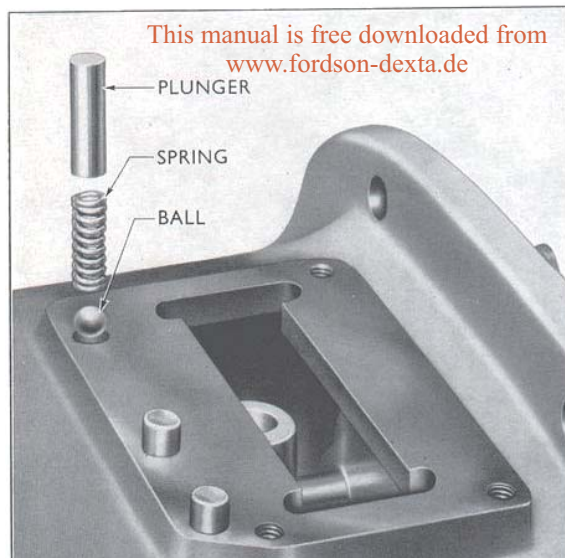

Fig. 24
4. Replace the centre and left-hand selector springs and plungers followed by the right-hand (high/low) selector ball, plunger and spring (see Fig. 24).